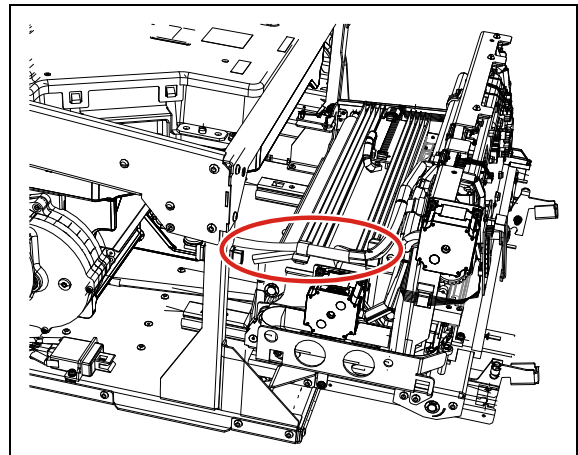

Figure 10
- (1) Check the condition of all cables inside of the digitizer.
- (2) Have a close look to the cables that are moved when the cassette unit is opened. See Figure 10.